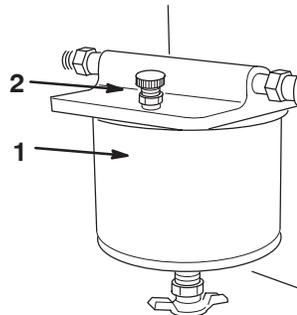

Figure 29
- Open the bleed screw on top of the fuel filter to fill the bowl with fuel (Fig. 29).